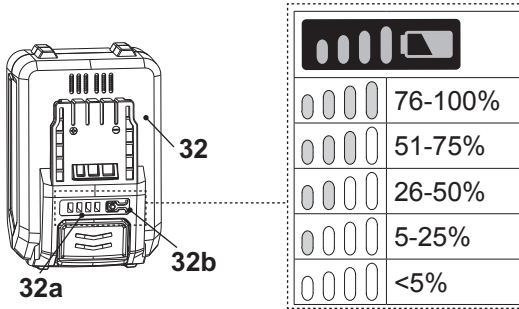

Fig. 19
The battery pack (32) is equipped with the battery capacity indicators (32a) which are used to give an indication of the battery pack's remaining capacity. Press the battery capacity button (32b) to check battery capacity (Fig. 19). The LEDs will stay lit for approximately 5 seconds.